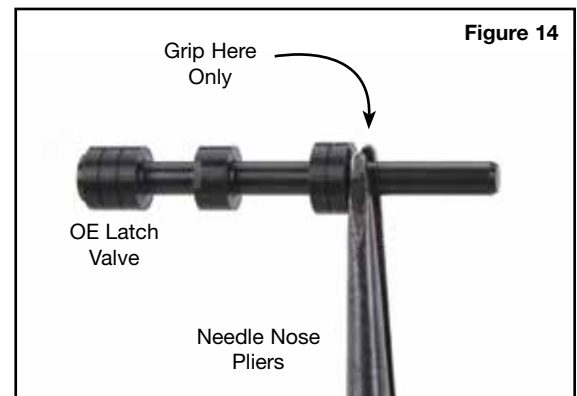

Figure 14
- Using a pair of needle nose pliers/vice grips, grip the valve on the spring stem at the base of the critical spool (**Figure 14**).